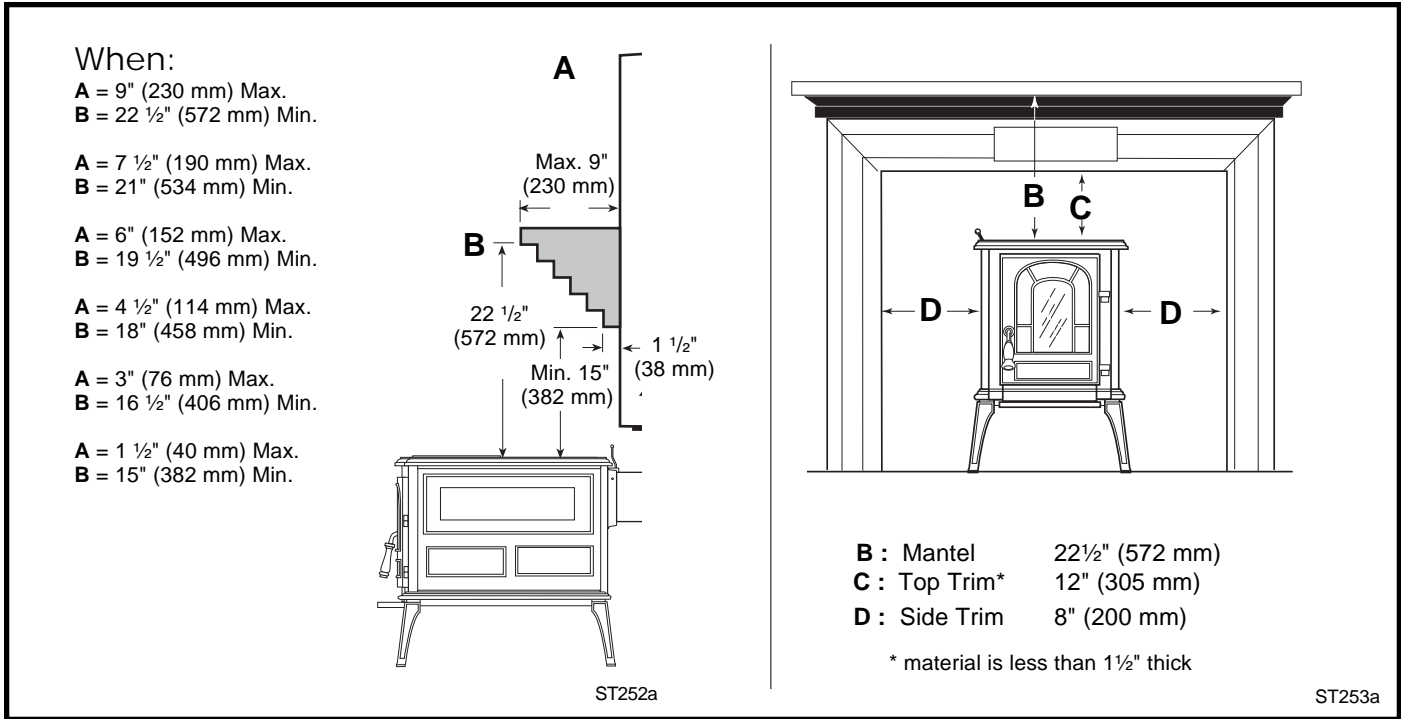

Fig. 20 Mantel and trim clearances.
Maximum Mantel depth (A, Fig. 20) of a combustible mantel is 9" (230 mm). At that depth, the clearance to the stove top (B) must be a minimum of 22 1/2" (572 mm).
Side Trim must have a minimum clearance of 8" (200 mm), measured from the stove's top edge. (D, Fig. 20)